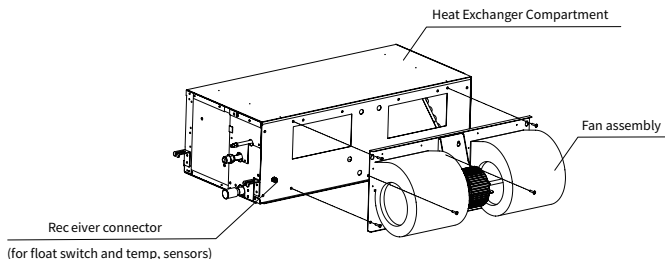

Fig.4.5
- (4) Remove the 5 bolts (M6) securing the fan assembly to the heat exchanger compartment. The fan assembly will be lifted off (Fig.4.5).